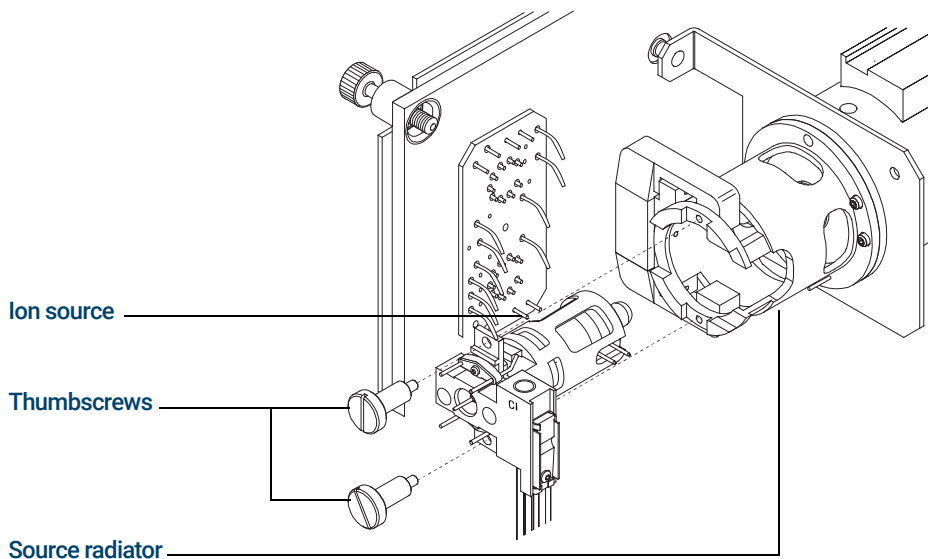

Figure 82. Installing the CI source
- 3 Slide the CI source into the radiator. (See **Figure 82**.)
- 4 Install the thumbscrews. (See **Figure 82**.)